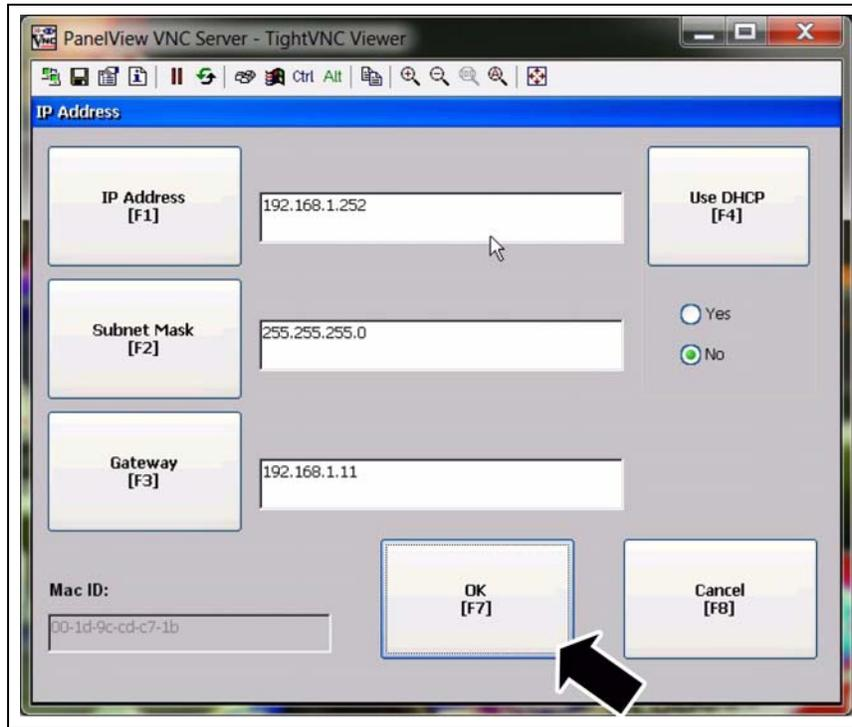

Figure 4J
9. Press OK to be taken back to the screen below. Continue to cancel out to get to the FactoryTalk menu. (See Figure 4J.)